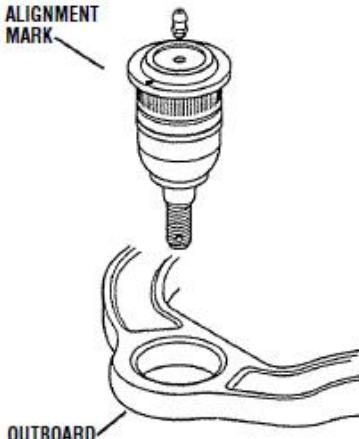

FIGURE 1
7.Position the new ball joint in the upper control arm with the drilled-hole alignment mark facing outward toward the wheel (SEE FIGURE 1).